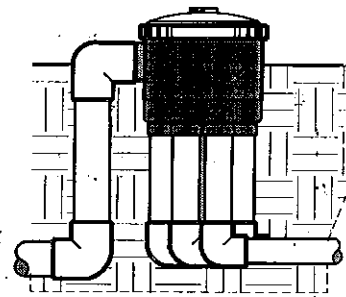

Figure 16-1
- a) The finished height of the valve must be high enough that the band clamp on the valve will be above pool water level. If lower than water level, water from the pool will flow from the valve if and when the clear lid is removed. The 2" feed line stub up to the valve and the 1-1/2" stubs below the valve **must be a minimum of 6" long.** (See Figure 16-1).
- c) If the desired valve level is below the finished grade the valve must be installed inside a housing similar to a sprinkler valve box (see Figure 16-1). This housing